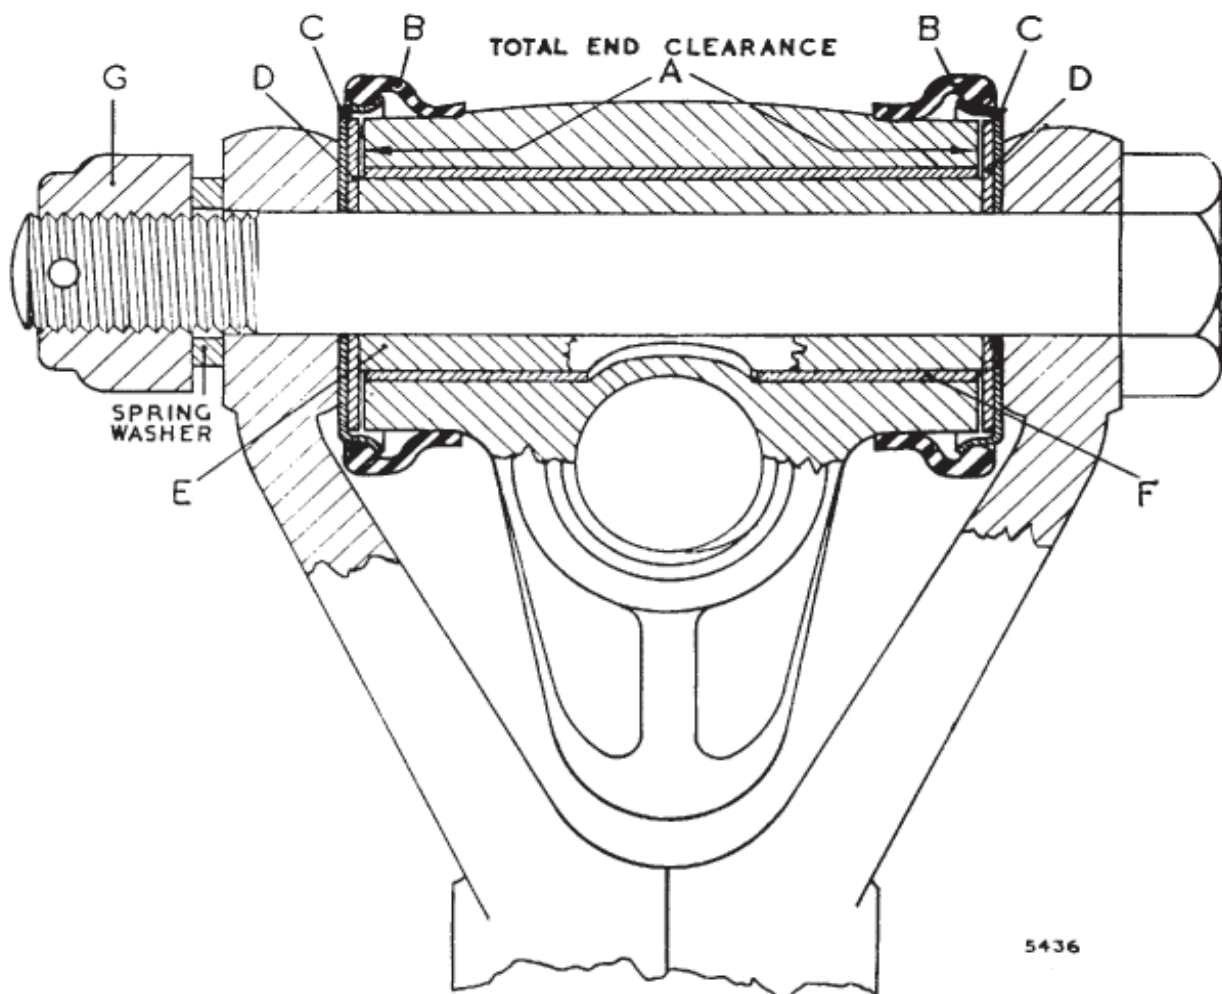

Fig. K.1
NOTE.—When pressing in this bush see that the hole in the bush faces the threaded bore. (See Fig. K.1.)
When the swivel links, distance tubes, and thrust washers are assembled the total end clearance between the link and the thrust washers should be $\cdot008$ to $\cdot013$ in. ($\cdot2$ to $\cdot33$ mm.) (see [A], Fig. K.1).
- (3) Before the lower steering knuckle link is bolted in position ensure that both thrust washers and rubber seals are fitted correctly (see Fig. K.1) and make sure that the links have a total end-clearance of $\cdot008$ to $\cdot013$ in. ($\cdot2$ to $\cdot33$ mm.) between the end faces of the link and the thrust washers.
Ensure that the thrust washers, rubber seals, and retainers are assembled in the right order (see Fig. K.1).